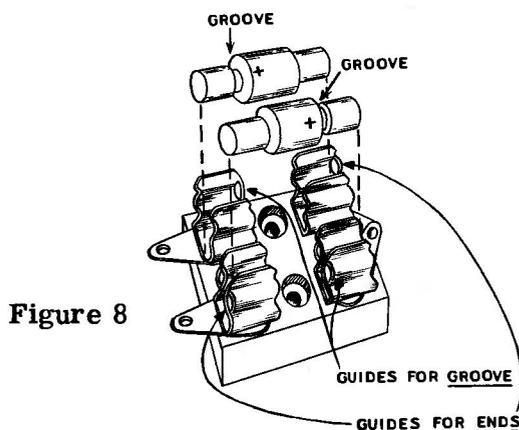

Figure 8
- ( ) Install the silicon rectifiers in the socket, being careful to mount them exactly as shown in Figure 8 and Pictorial 2 on Page 17.